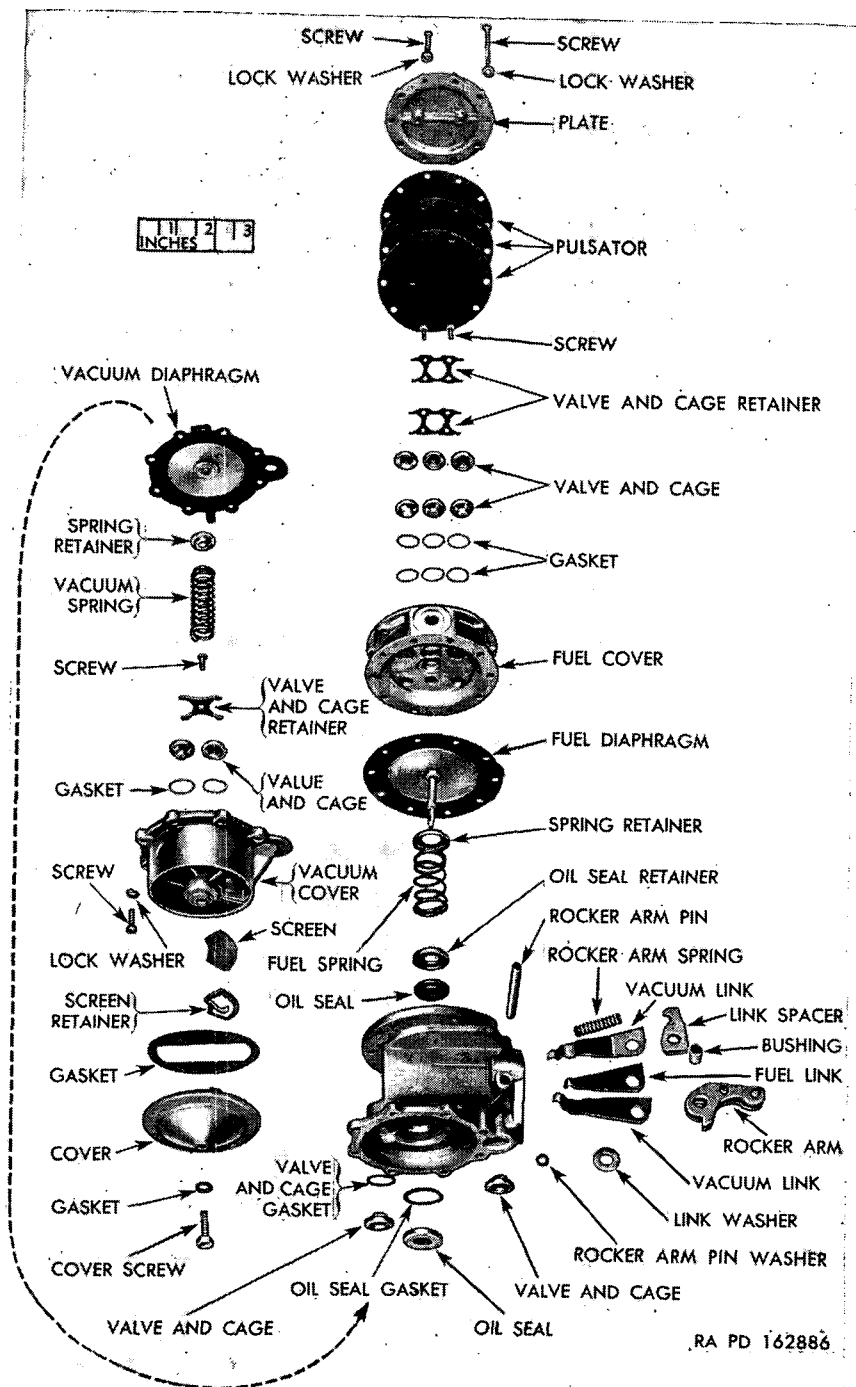

Figure 60. Fuel and vacuum pump, disassembled view (typical series CU and CY construction).
### 90. Disassembly (fig. 60)
*a. Assemble Body (fig. 60).*
- (1) Place fuel section seal in recess of body with large dished portion of seal down. Press retainer down firmly with flat end of  $\frac{7}{8}$ -inch diameter round bar. Retain by staking die cast lip in four places.
- (2) Place gasket in recess for vacuum section pull rod seal and follow with seal, narrow diameter first. Press down firmly with flat end of  $\frac{7}{8}$ -inch diameter round bar. Retain by staking die cast lip in four places.
- (3) Place neoprene gasket in vacuum section valve recess next to oil seal and follow with valve and cage, spring and cage down. Firmly press valve and cage against neoprene gasket and retain by staking die cast in three places around valve.
- (4) Assemble link spacer over fuel link. Place one vacuum link on each side of fuel link. The hook ends of vacuum links should come together so they surround the fuel link. All link hooks should point in the same direction. Place assembly of links and spacer between lobes of rocker arm with one spacer washer on the outer side of each vacuum link. Slide rocker arm bushing through holes in rocker arm, spacer washers, and links.
- (5) Place pump body on bench, fuel flange down. Set rocker arm spring in position with one end over cone cast into body.